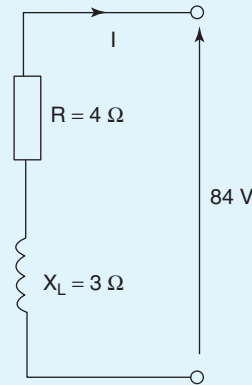

Figure 15.26
16. The amplitude of the current I flowing in the circuit of Fig. 15.26 is: